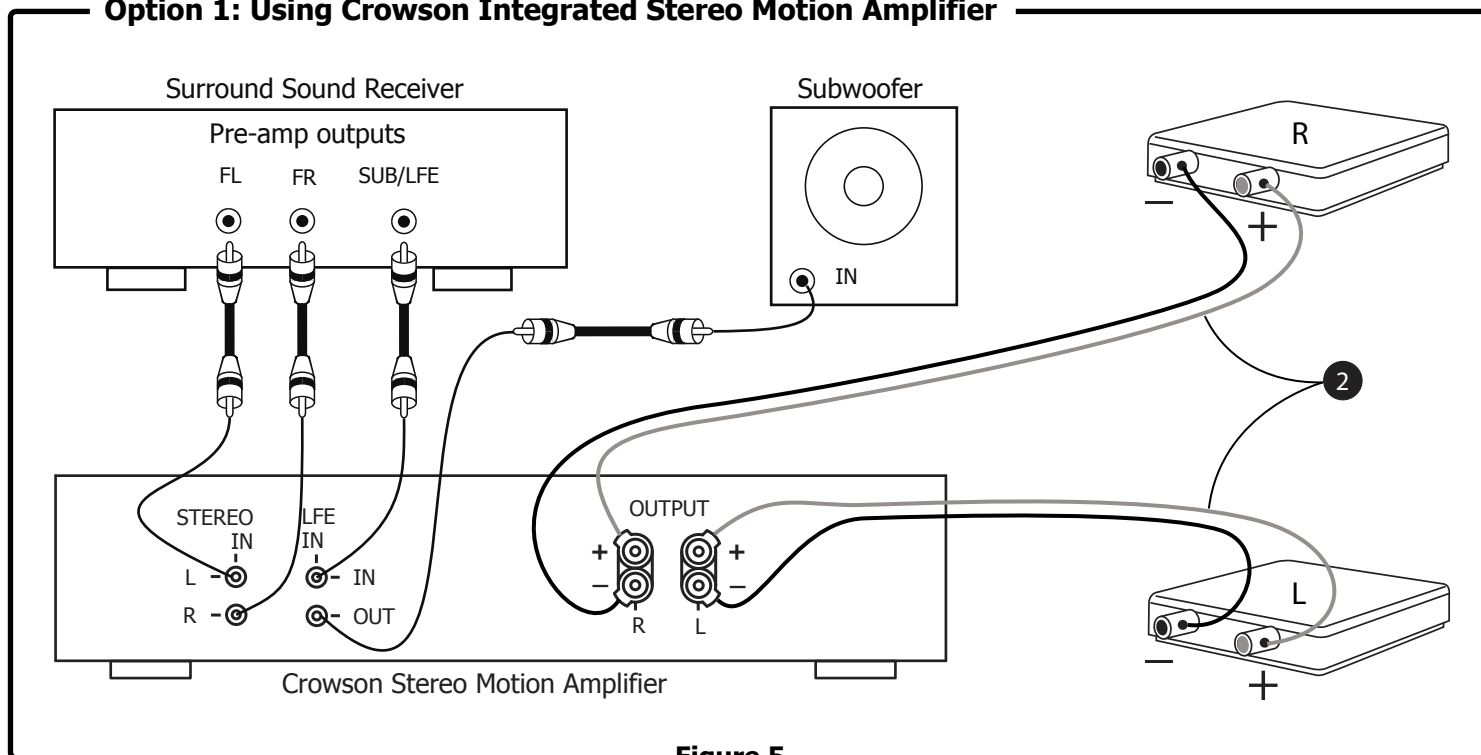
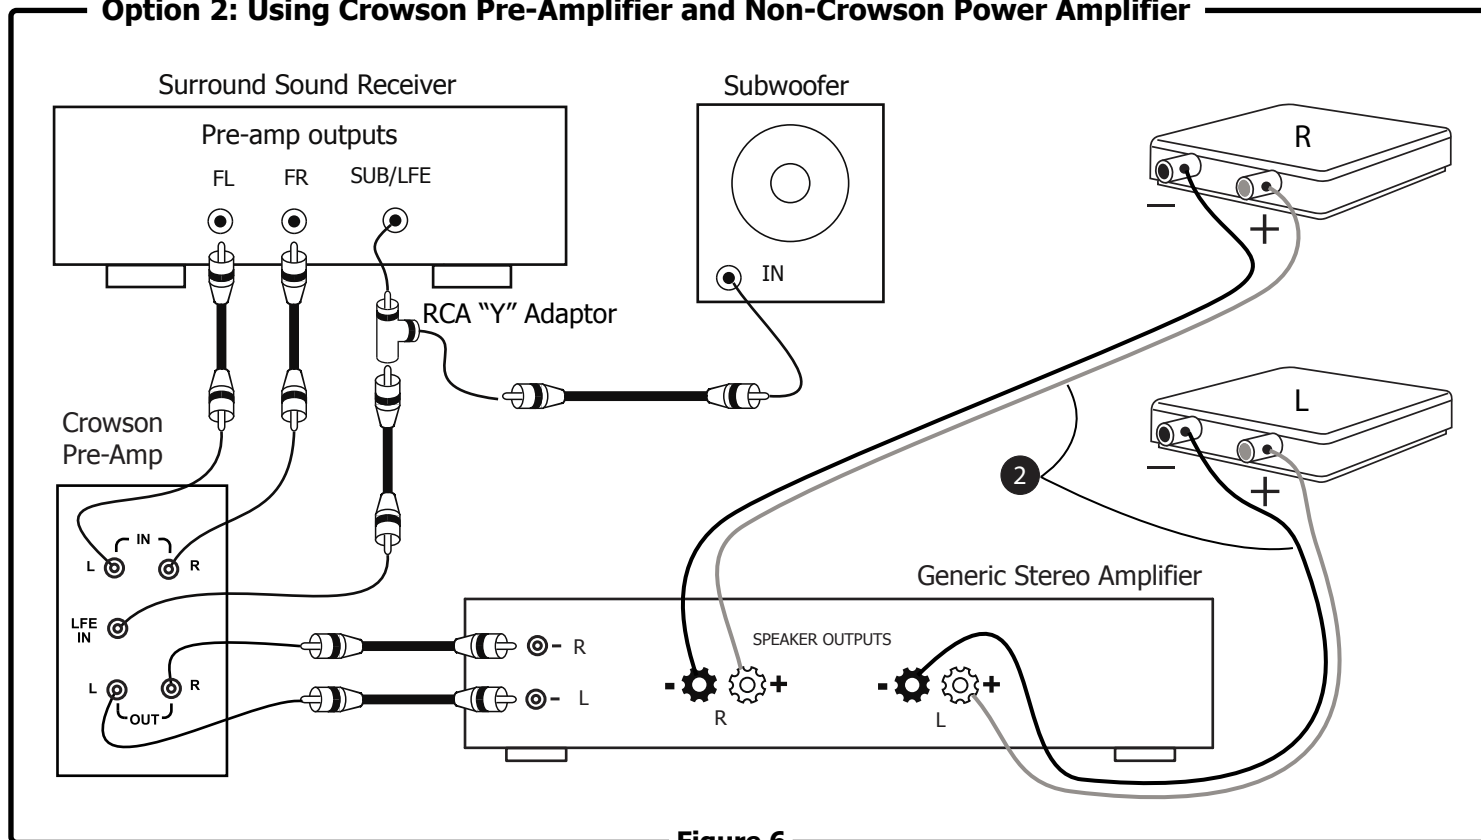
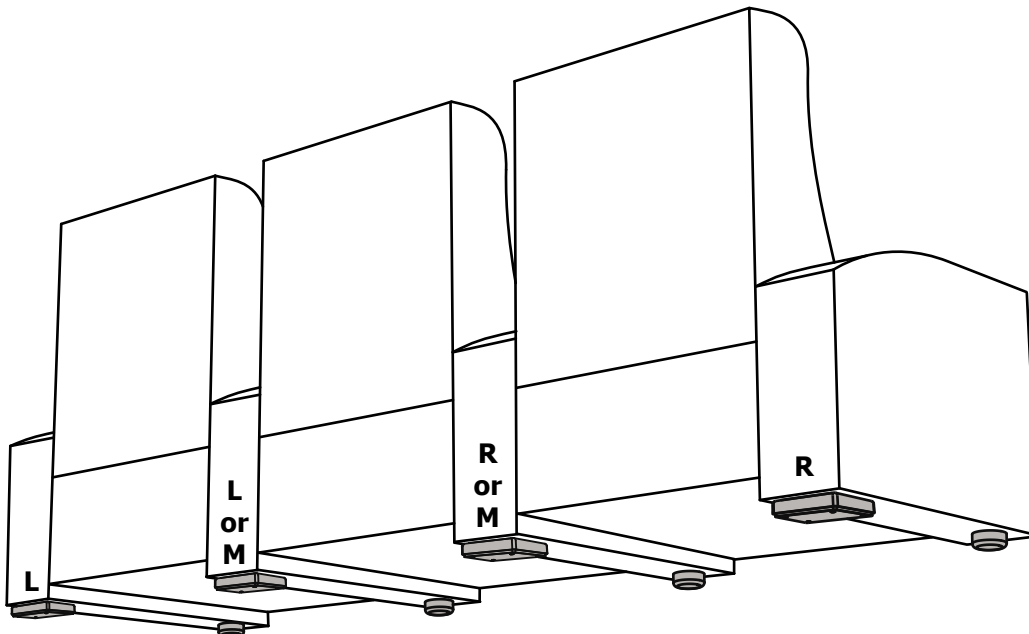

Figure 5
Figure 6
Figure 11
If using a Crowson Integrated Stereo Motion Amplifier, connect the signal wires according to fig.5. If you wish to use a non-Crowson stereo amplifier, connect the signal wires according to fig.6. TES-100 Actuators should be powered by an amplifier producing between 50 and 500 Watts RMS per channel. Without the use of a Crowson Bass Management Pre-Amplifier, standard audio amplifiers are unsuited to power TES-100 Actuators.
Crowson TES-100 Tactile Motion Systems may be integrated into large home theater environments with multiple seats and multiple rows. We recommend installing one (1) TES-100 Actuator and one (1) Motion Isolator per arm (ref: fig. 11). Each "active" seating position must rest, in part, on at least one (1) TES-100 Actuator. Additional Motion Isolators may be purchased and added to support the additional feet of a non-standard seating design. When armrests are shared between two seats, the TES-100 Actuator below the arm can be configured as Right (**R**), Left (**L**), or Mono (**M**). TES-100 Actuators on the Left side of the row should be configured as a "Left" and TES-100 Actuators on the Right side of the row should be configured as a "Right". TES-100 Actuators in the center should be configured as a "Mono".
2. Connect Actuators to Amplifier(s): Per standard installation instructions. Connect the Left (**L**), Right (**R**) and Mono (**M**) outputs from the amplifier(s) to the TES-100 Actuators (ref: fig. 5,6,9,10) positioned as shown in fig.11. In multiple seat installations, it is often necessary to employ more than one amplifier. It is possible to "stack" amplifiers in order to share the input signals between two (2) or more amplifiers. This will require the use of a line-level multi-channel audio distribution system or the use of RCA "Y" adapters. Please consult with your Crowson Authorized Dealer or a qualified Crowson technician for assistance.
3. Install Actuators: Per standard installation instructions (ref: fig. 11).